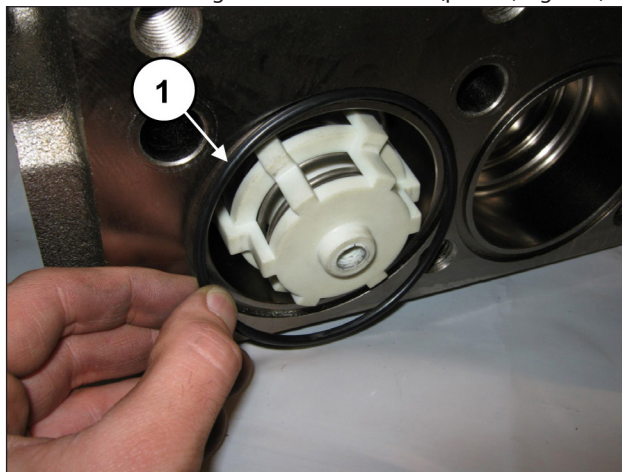

Fig. 157
Insert the front O-ring in the suction valves (pos. ①, Fig. 157).